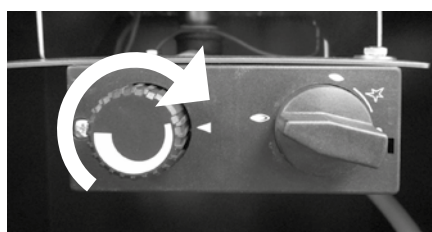

Fig. 8
2. For a lower gas flame, turn the knob clockwise to the right (Fig. 8).